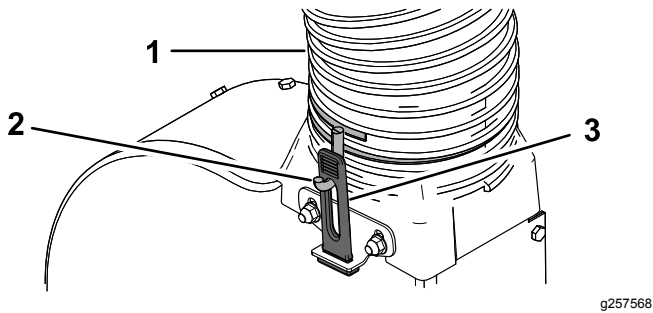

Figure 10
4. Thread the hose clamp onto the other end of the new hose 2 to 3 turns (Figure 10).
5. Install the hose over the blower transition so that the hose forms an approximately 90-degree bend from the hood. Adjust the orientation of the hose-clamp hooks as needed so that they align with the rubber latches, and secure the hose by stretching the rubber latches over the hooks (Figure 10).